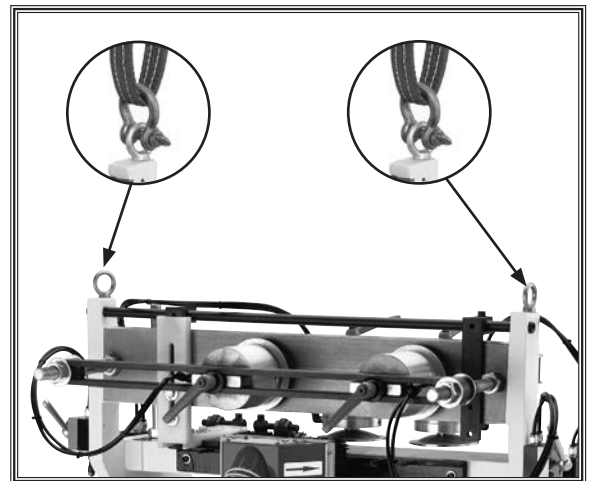

Figure 5. Lifting machine from eyes.
2. Connect the lifting straps to the eye bolts, using shackles, as shown in **Figure 5**.